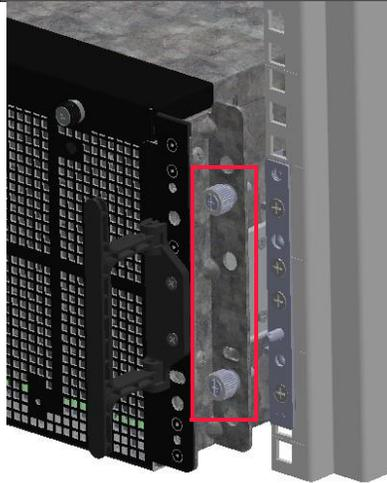

Figure 6.2 Two right side rack thumbscrews
1. Loosen the two left and two right thumbscrews that secure the enclosure to each of the front rack posts. The thumbscrews are shown in Figure 6.2 on page 74.